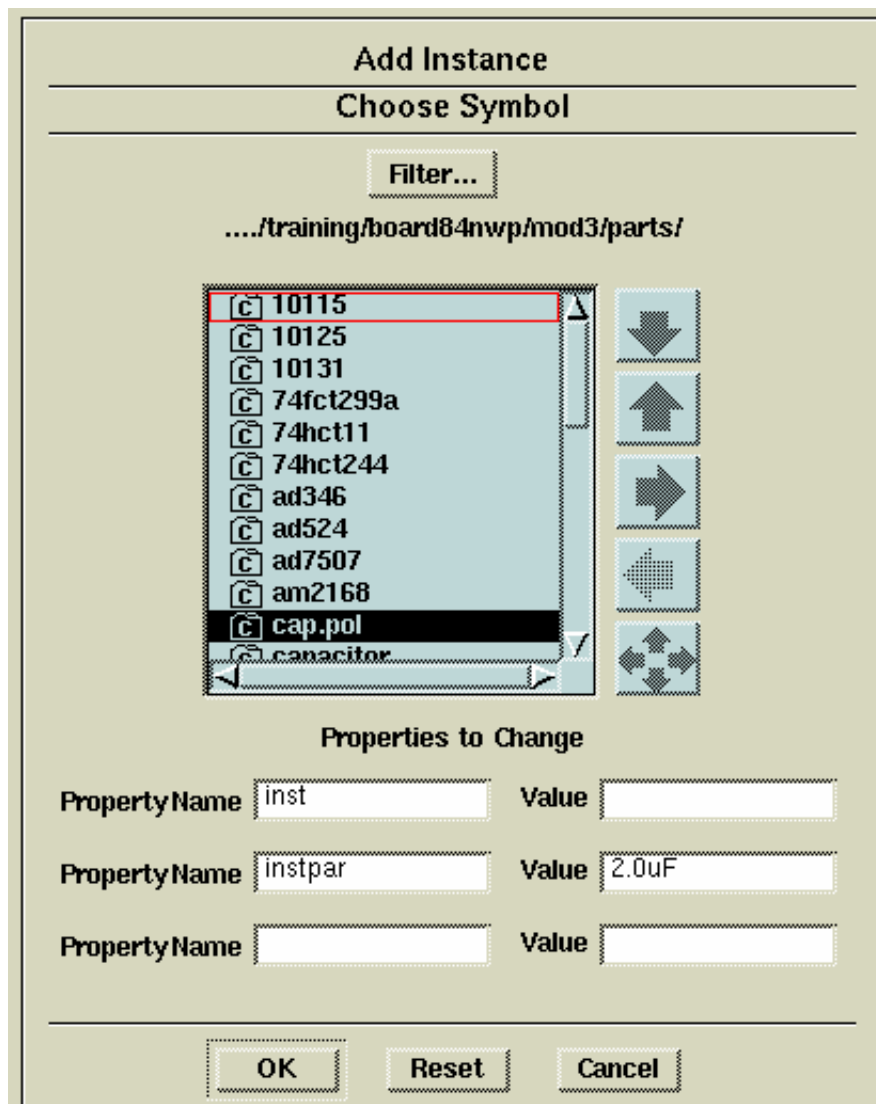

Figure 2-24. Add Instance Dialog Box
13. Click the Select mouse button on **cap.pol** in the list of symbols. Enter the changes in the Property Name and Property Value fields in the dialog box as shown in Figure 2-24, then **OK** the dialog box.